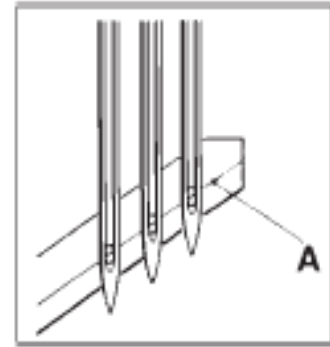

Fig. 10
H. Position of Rear Needle Guard when Needles are at their lowest position, the line (A) of rear Needle Guard is set with the center of needle eyes.(Fig. 10).